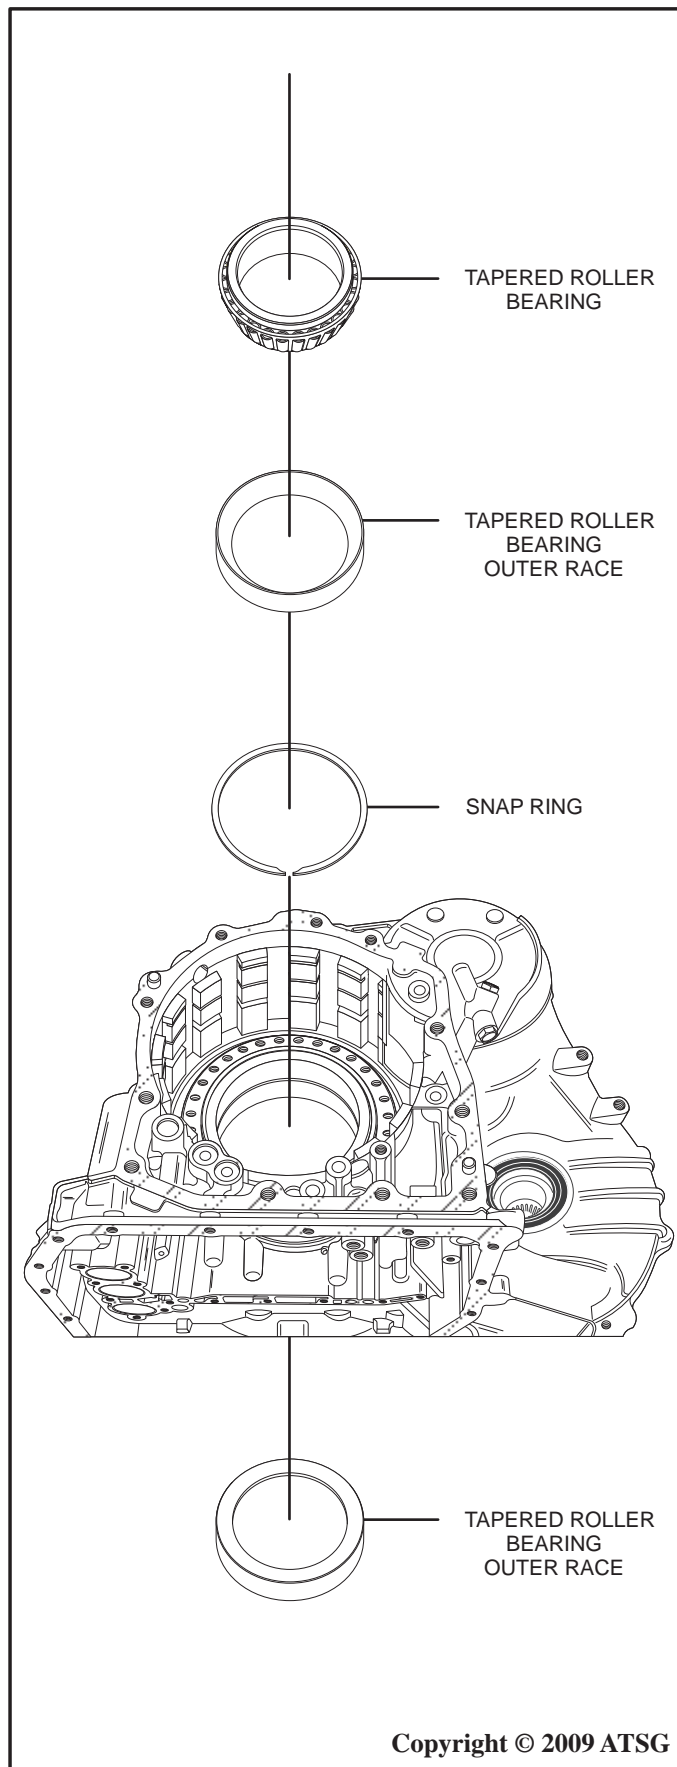

Figure 58
99. Remove the tapered roller bearing as shown in Figure 58.
100. Using a hammer and suitable drift punch, remove the two tapered roller bearing outer races from the case as shown in Figure 58.
101. Using a screwdriver, remove the snap ring from the case as shown in Figure 58.